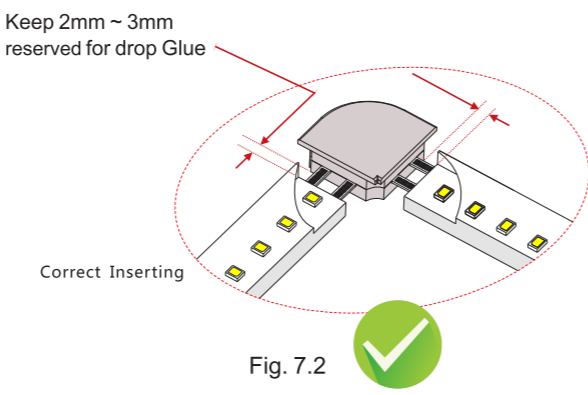

Fig. 7.2
- Fig. 7.2 — The 4 Pins must be inserted into the back of the PCB board, to make it energized, and keep the 2-3mm reserved for drop glue.